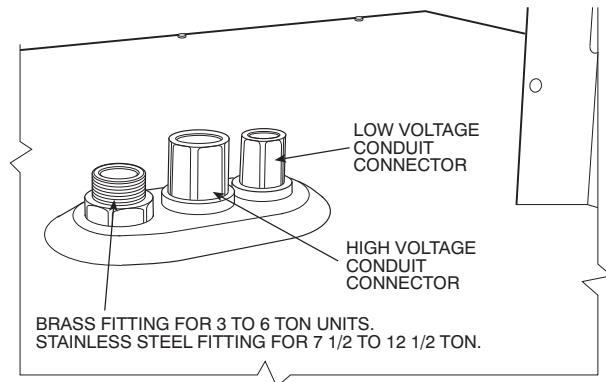

Fig. 1 - Fittings for 3 to 6 Ton and 7-1/2 to 12-1/2 Ton Units
Each unit is equipped with a raised (embossed) surface in the basepan. This area is located in the compressor compartment of the unit, adjacent to the compressor. (See Fig. 1.) The embossment of the basepan contains three (3) dimples for locating cutouts. Holes can be field cut in the embossed surface so that high voltage power, control wires and gas connection can be routed through the roof curb basepan.
*The gas fitting also contains two neoprene washers and two locking washers. One neoprene and one locking washer are installed below the unit basepan with the second set being installed on the top side of the basepan before the fitting is tightened. Tighten all fittings. The male threads protrude above the basepan of the unit, while the female threads protrude below the basepan. (See Fig. 1.)